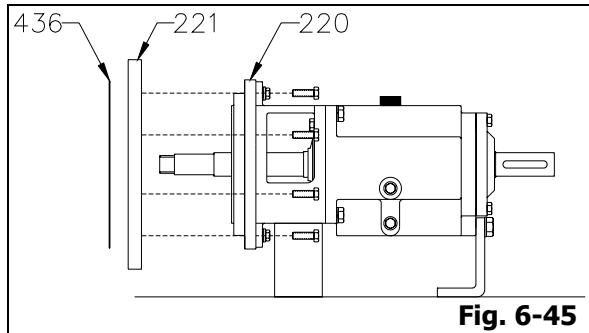

Fig. 6-45
- Remove adaptor extension ring gasket (436) from adaptor extension ring (221) (Fig. 6-45).